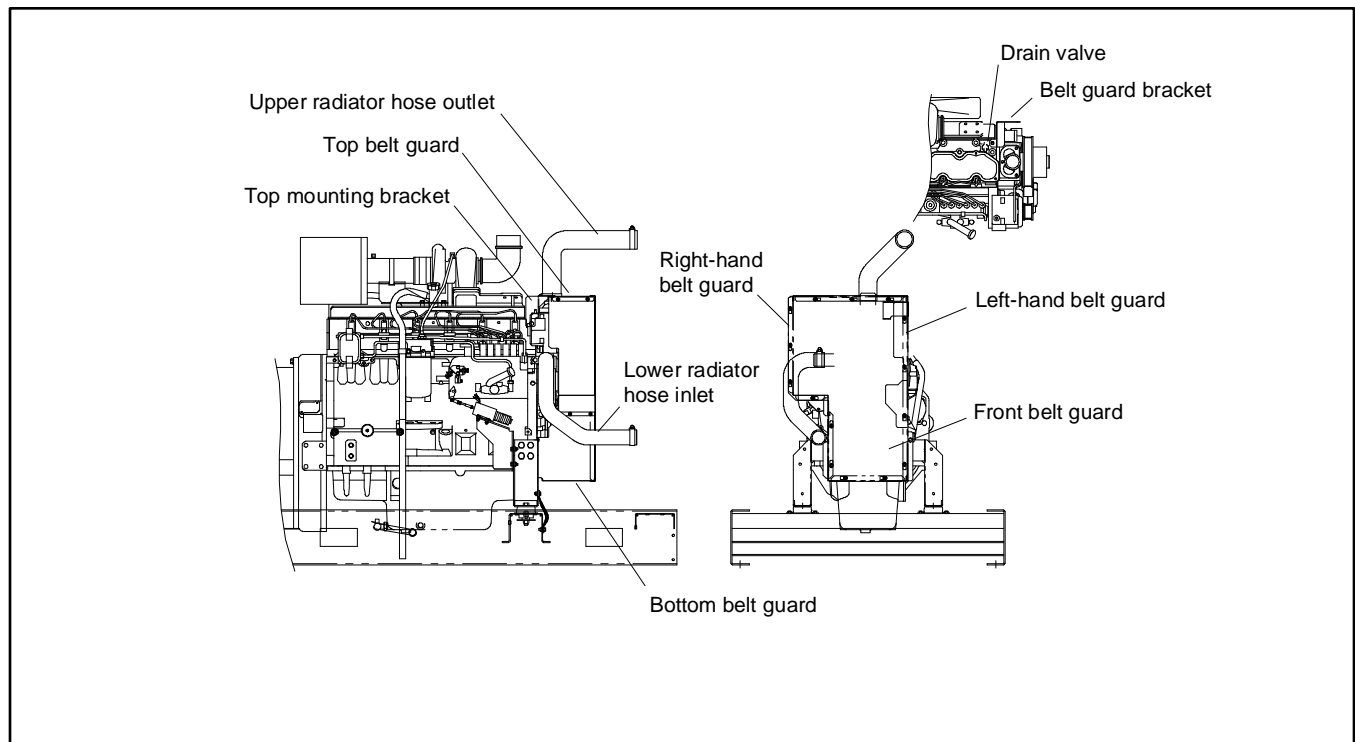

Figure 33 Remote Radiator Setup Kit, Typical
- Use a remote radiator setup kit, if available, to aid installation. See Figure 33.